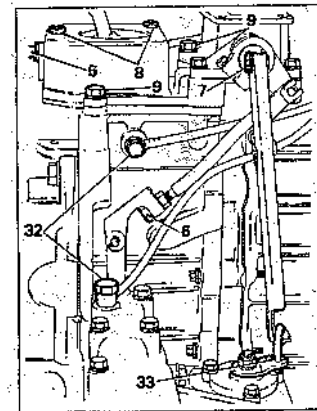

Fig. 13.95 Transmission linkage and component attachments - 1986-on models (Sec 9B)
- 56 Refer to Fig. 13.95 and undo the lower locknut from the high/low operating rod.